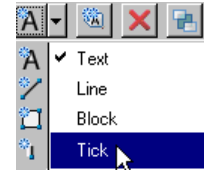

Figure 6-63 Choosing the **Tick** component
14. Choose the down-arrow on the right of the **Create Text Component** button to display a flyout, and select the **Tick** option from the flyout as shown in Figure 6-63; the tick